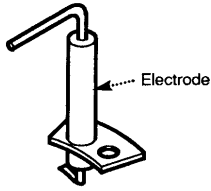

Fig. 44
10.5 Cleaning the Electrode (Fig. 44 & 45)